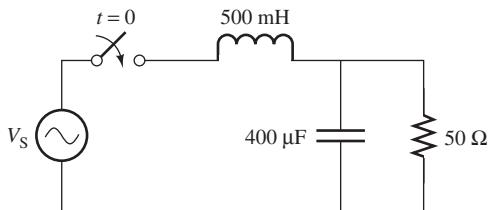

FIGURE P5.55 Circuit for Problem 5.55.
- 5.55** (H) The switch closes at $t = 0$ s. Given $v_S(t) = 20\sin(200t)$, find the current flow across the resistor $i_R(t)$ for the circuit shown in Figure P5.55.